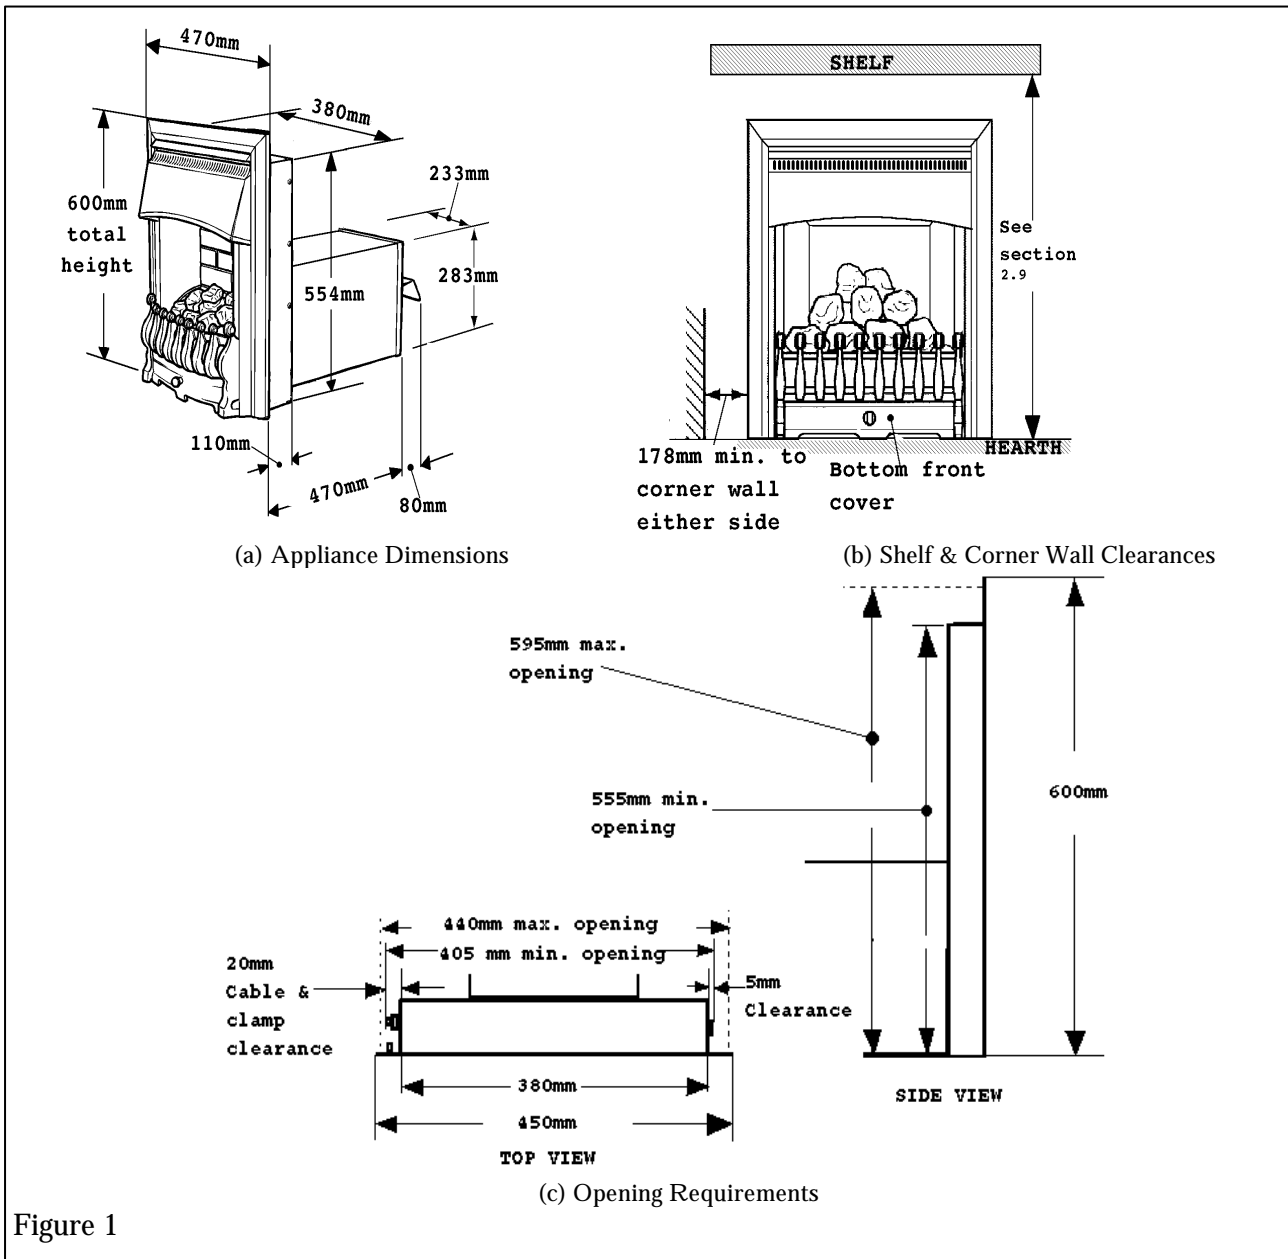

Figure 1
**2.6** The opening in the surround or wall recess for the convection box must be within the limits shown in figure 1(c)
**5.3.3** The recess in the inner wall for the convection box should be to the size shown in figure 1. The bottom of this recess should be at the same level as the top surface of the hearth.